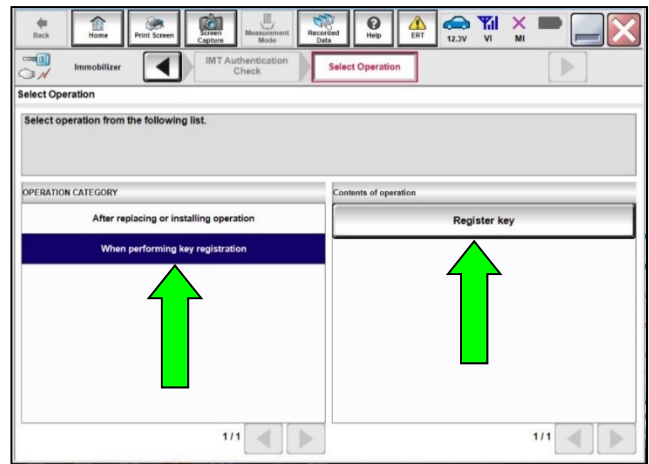

Figure 11
15. Follow the screen prompts to navigate to the screen shown in Figure 11.